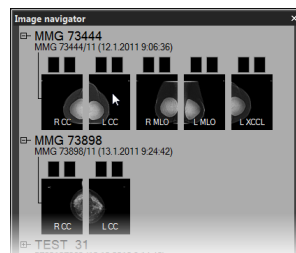

Figure 355 – Display image using the image navigator
2. Expand the selected mammography study and click the required image preview in the image navigator (see Figure 355).